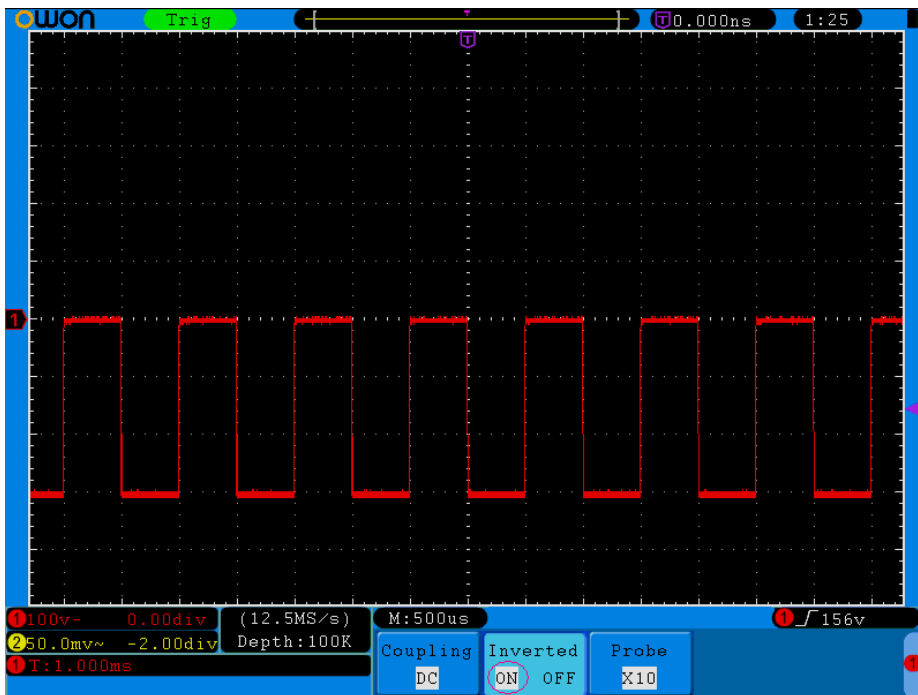

Figure 5-5 Inverted Waveform
- (1) Press the **CH1 MENU** button to show the **CH1 SETUP** menu.
- (2) Press the **H2** menu selection button and select **ON** for **Inverted** item. The waveform is inverted as it is shown in *Figure 5-5*.